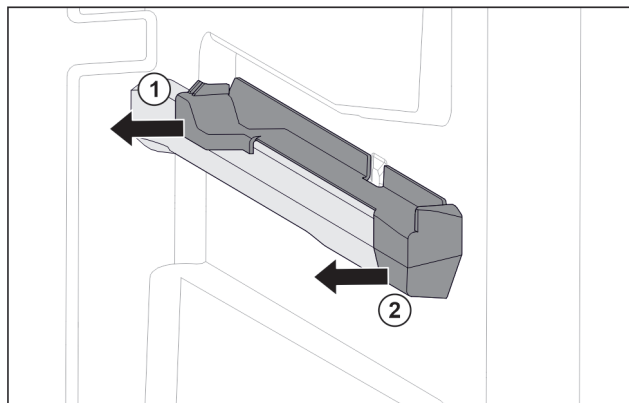

Fig. 77 Attachment on the right moulded rib
- Pull off attachment at the back sideways. Fig. 77 (1)
- Pull off attachment at the front sideways. Fig. 77 (2)